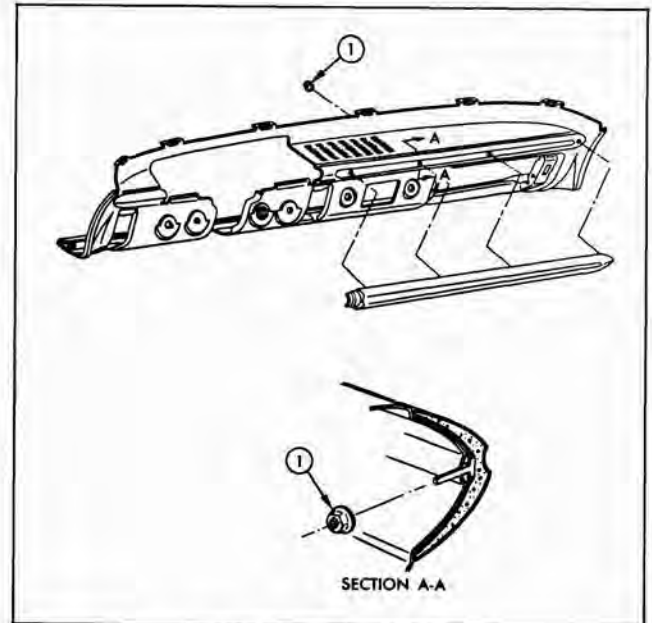

Fig. 12-21 Instrument Panel Cover
1. From underside of instrument panel remove attaching nuts indicated by #1 in Fig. 12-21 and remove cover assembly.